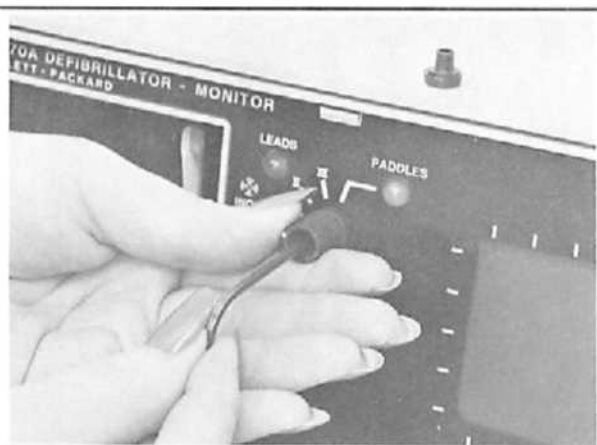

Figure 4-16.
2. The knobs are secured to the control shafts by collets. Insert the hex key through the front of the knob. Hold the knob to prevent rotation, and use the hex key to loosen the collet by turning one full turn counterclockwise (see Figure 4-16).